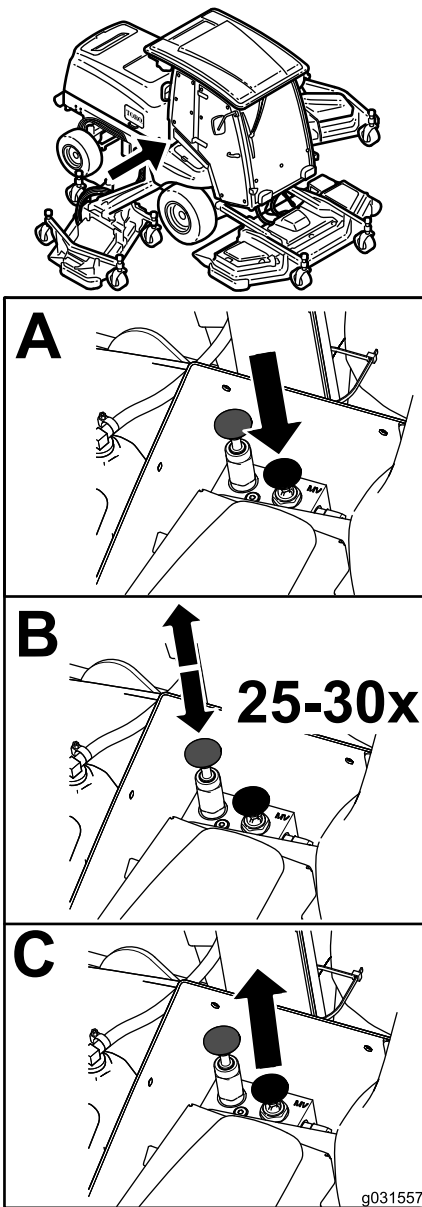

Figure 59
1. Bypass valves (2)
4. Manually release the automatic parking brake using the bypass valve and plunger as shown in Figure 59.